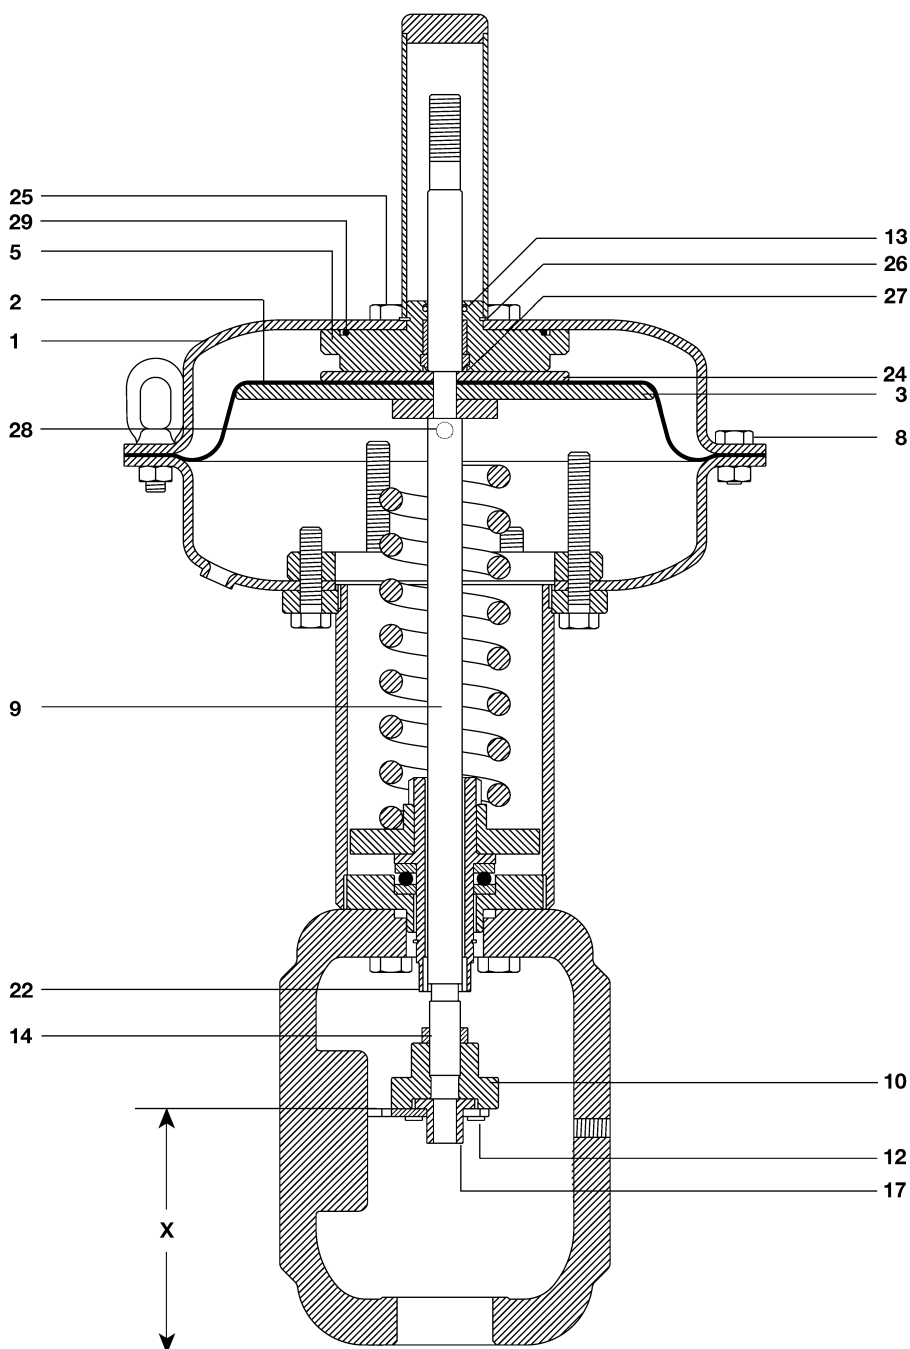

Fig. 10 PN2000 series
## 5.4 PN2300 to PN2600 series (Refer to Figure 10):
- Place a new gasket 'O' ring (29) in the seal bushing groove (5), position the bushing in the lower housing, align the holes and secure with snap ring (26). Refit the cap screws (25).
- Refit the top housing and securing nuts and bolts (8). Refer to Table 1, page 14 for the recommended tightening torques.
**Note 1:** On certain spring ranges longer housing bolts are fitted (8). Where supplied, these should be positioned evenly apart and tightened evenly prior to fitting the remaining bolts.
- Adjust the position of the adaptor (10), so that distance from the bottom of the yoke is equivalent to the dimension 'X', and tighten the lock-nut (14).
**Table 2 Dimension 'X' approximate in mm (inches) (See Figure 10)**